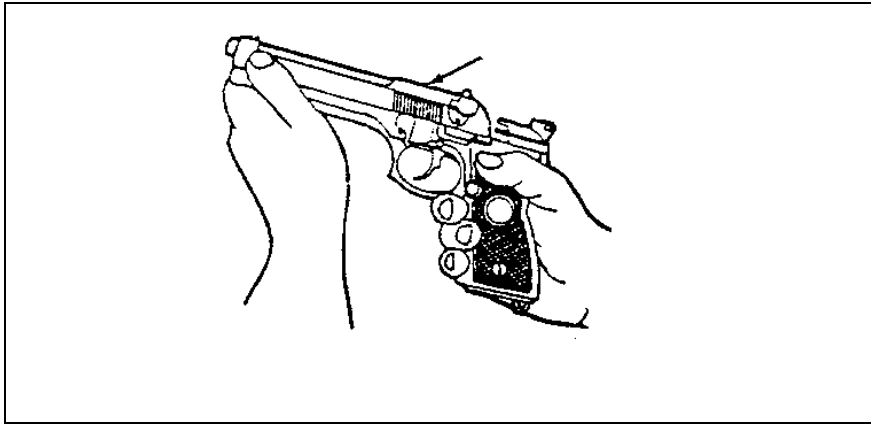

Figure 4. Removal of slide and barrel assembly
c. Pull the slide and barrel assembly forward and remove. (See Figure 4.)